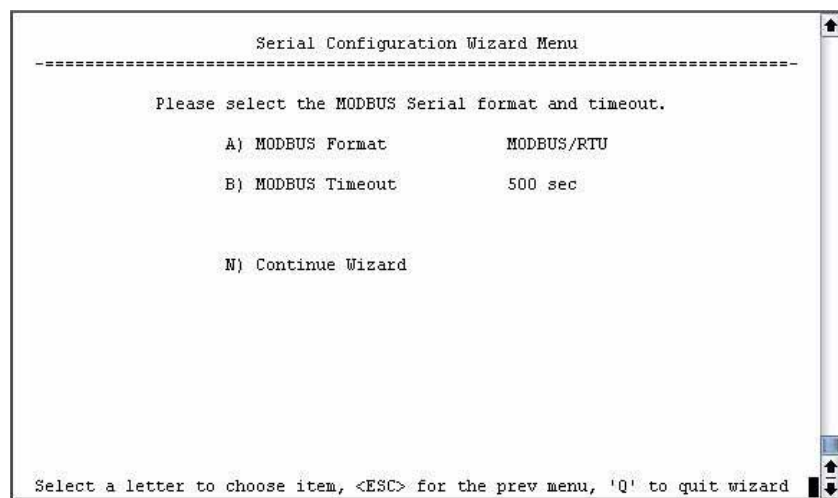

Figure 3-47. Choose Modbus Serial Format and Timeout Value
4. On the next screen (Figure 3-47), press **A** to change the Modbus serial format, then press the space bar to toggle between the available formats (**MODBUS/RTU** or **MODBUS/ASCII**). Press **B** to enter the Modbus serial timeout value in milliseconds. Press **N** to continue the wizard.